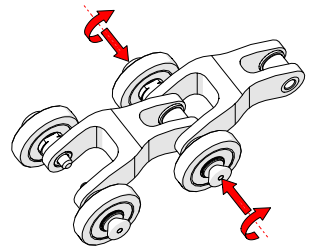

Fig. 49 - Release pins
3. Twist the pins until they unlatch and extend into the hole of the connected component (Fig. 49).